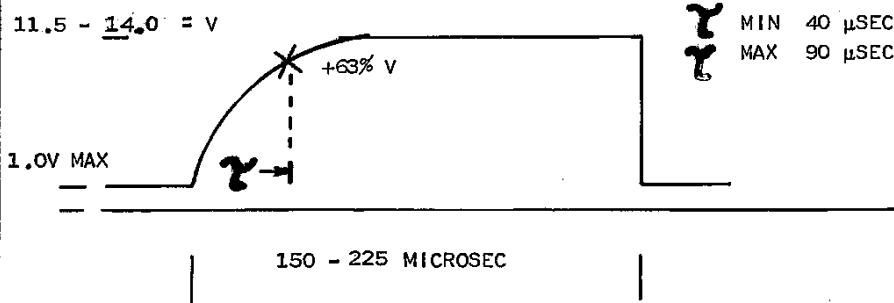

FIGURE 3
8. MOVE THE SCOPE PROBE IN SUCCESSION FROM PIN 22, 20, 18, 32, 30, 28. AND VERIFY THAT EACH PULSE OBSERVED MEETS THE REQUIREMENTS SHOWN IN FIGURE 3.